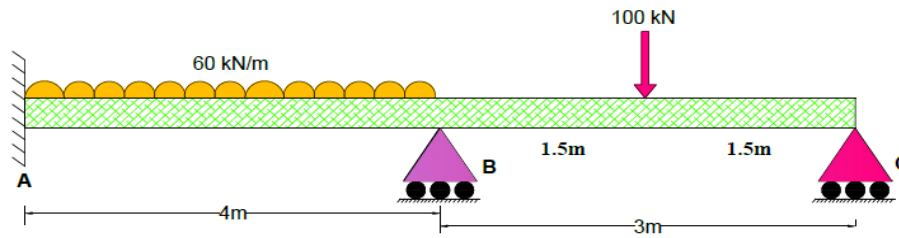

Fig 3
12. (a) Analyze the continuous beam loaded as shown in fig 3. by CO4-Ana (16) displacement method. Assume EI is not uniform throughout.